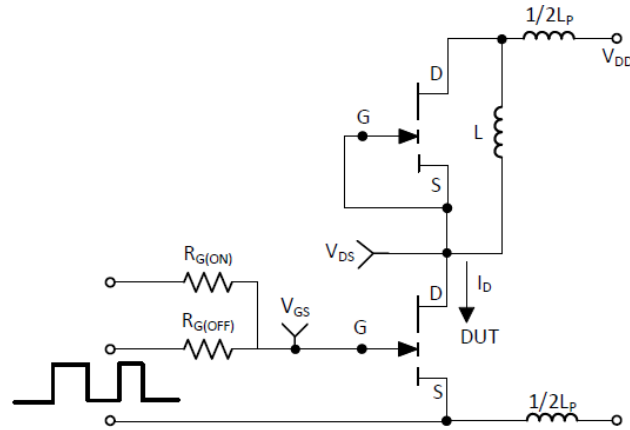

Figure 16: Switching Test Circuit
(6) See Figure 16 for switching test circuit diagram.